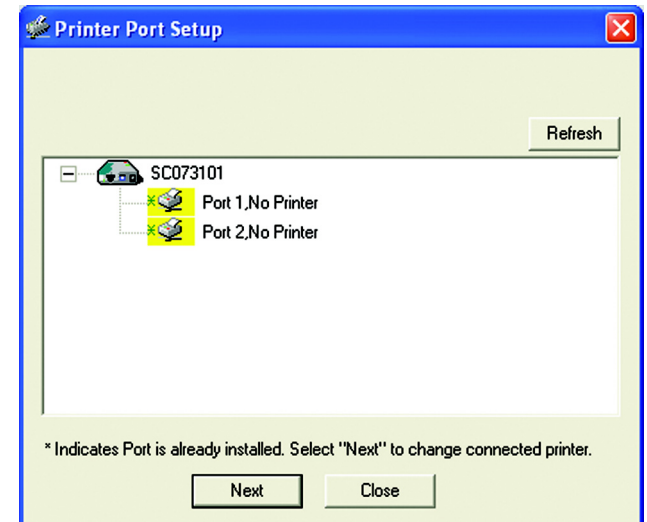

Figure 5-7: Printer Port Setup
3. The *Printer Port Setup* screen will appear, as shown in Figure 5-7, and list the PrintServer and its ports. Select a printer port to add, and then click **Next**.